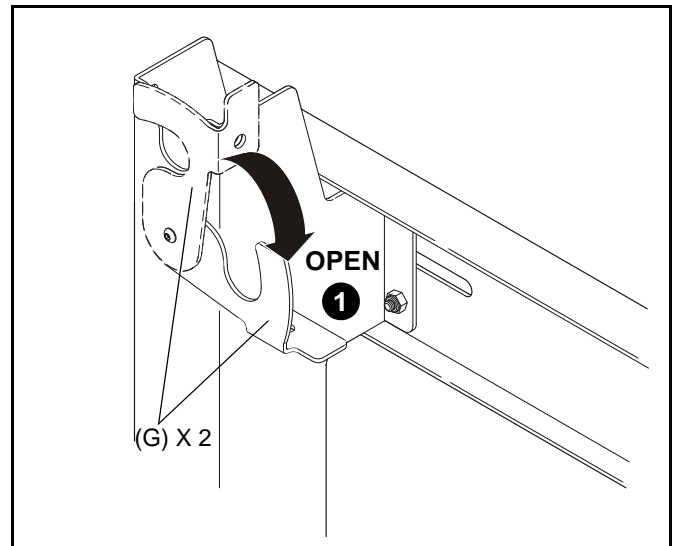

Figure 5
1. Move locking flags (G) on mount to the OPEN position. (See Figure 5)